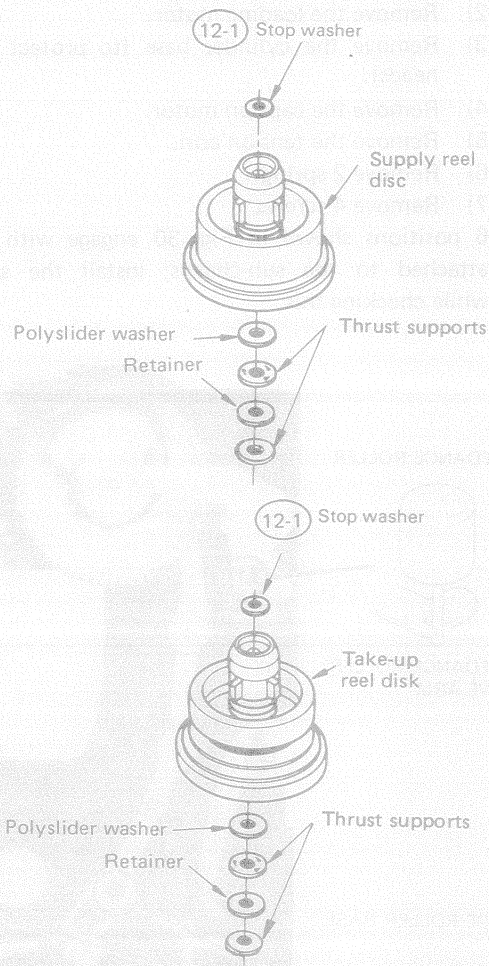

Fig. 27
12. Take up/supply reel disc assembly (Fig. 27)